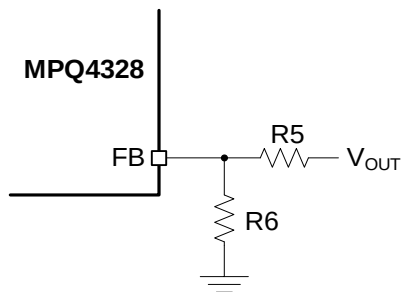

Figure 8: Feedback Divider Network for Adjustable-Output Version
For the adjustable-output version, the typical feedback (FB) voltage (V_{FB}) is 0.8V. The external resistor divider (R5 and R6) connected to FB sets V_{OUT} (see Figure 8).